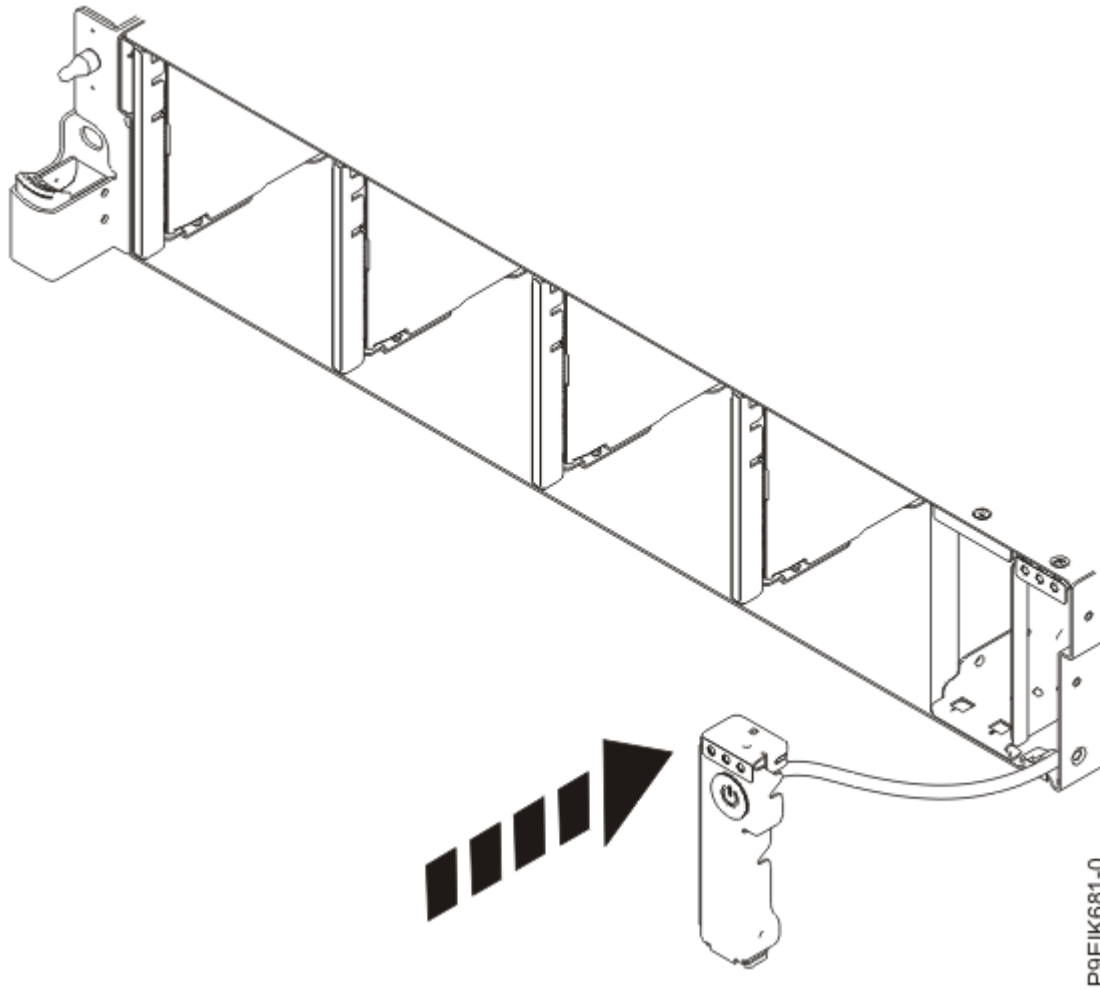

Figure 39. Replacing the power switch and cable into the system backplane
3. Insert the power switch and cable into the system as shown in Figure 39 on page 53. Be careful to route the cable through to the system backplane.